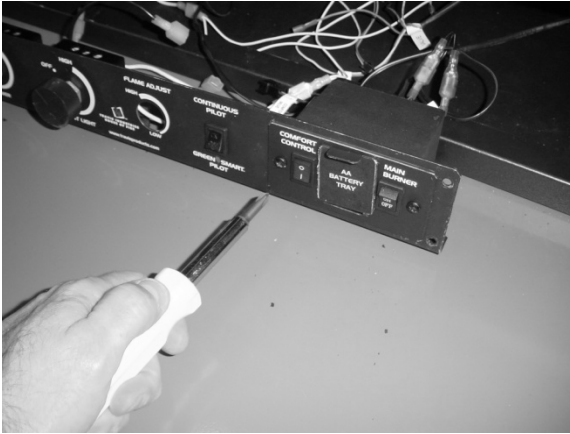
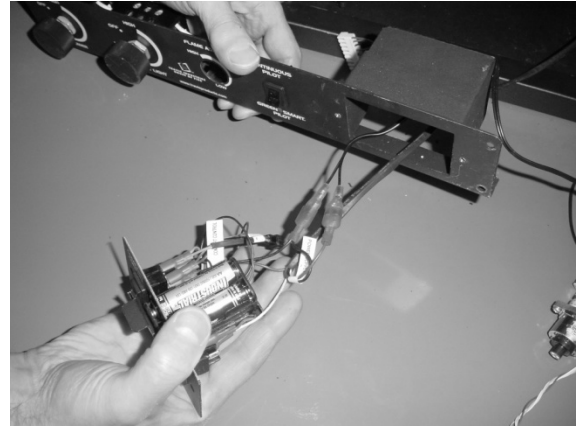

Figure 9
Figure 10
- 7 Unscrew the on/off/battery plate from the control panel (see Figure 9). Pull the plate and wiring forward (see Figure 10).